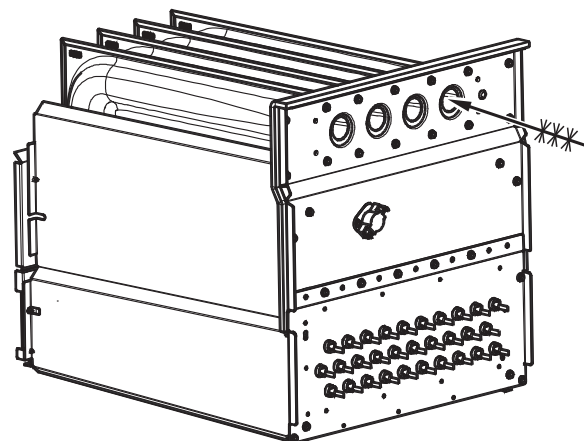

Fig. 62 - Cleaning Heat Exchanger Cell
7. Clean heat exchanger openings with a vacuum and a soft brush. See Fig. 62.